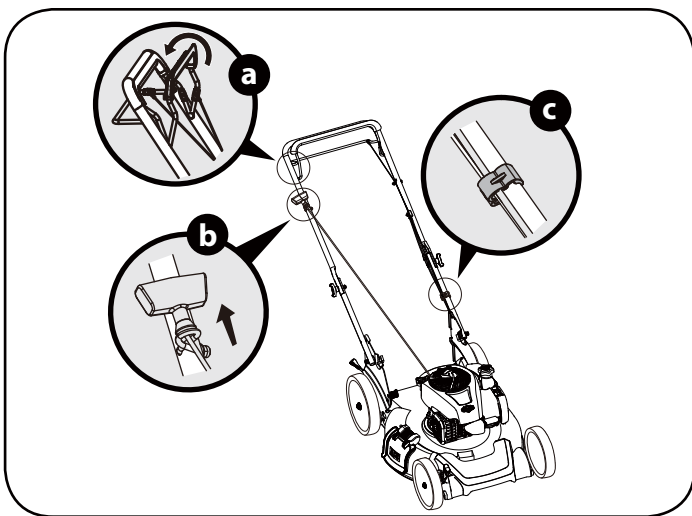

Figure 6
1. The rope guide is attached to the right side of the upper handle. Refer to Figure 6.
- b. Slowly pull starter rope handle from engine and slip starter rope into the rope guide. See Figure 6.